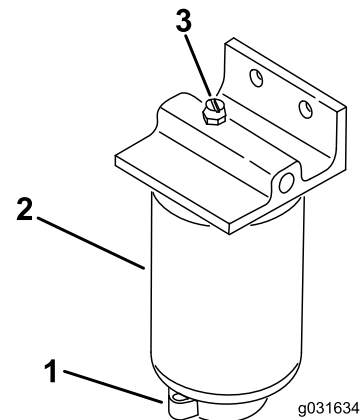

Figure 50
2. Loosen the drain valve on the bottom of the filter (Figure 50).
1. Clean the area where the filter mounts (Figure 50).